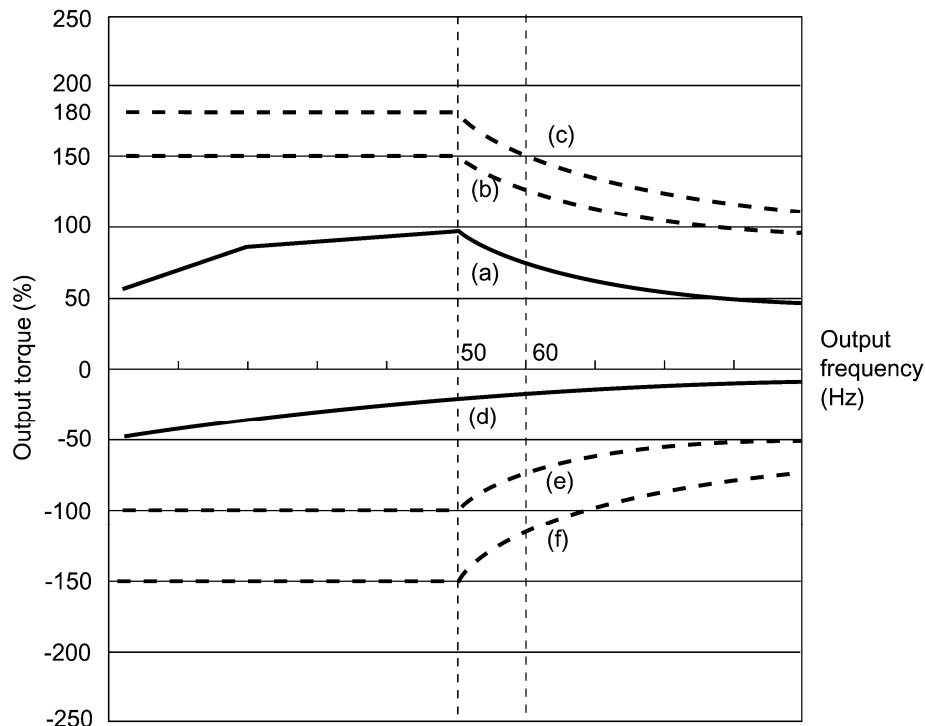

Figure 7.1 Output Torque Characteristics (Base frequency: 50 Hz)
Figures 7.1 and 7.2 graph the output torque characteristics of motors at the rated output frequency individually for 50 Hz and 60 Hz base. The horizontal and vertical axes show the output frequency and output torque (%), respectively. Curves (a) through (f) depend on the running conditions.
(1) Continuous allowable driving torque (Curve (a) in Figures 7.1 and 7.2)
(2) Maximum driving torque in a short time (Curves (b) and (c) in Figures 7.1 and 7.2)
(3) Starting torque (around the output frequency 0 Hz in Figures 7.1 and 7.2)
#### (4) Braking torque (Curves (d), (e), and (f) in Figures 7.1 and 7.2)